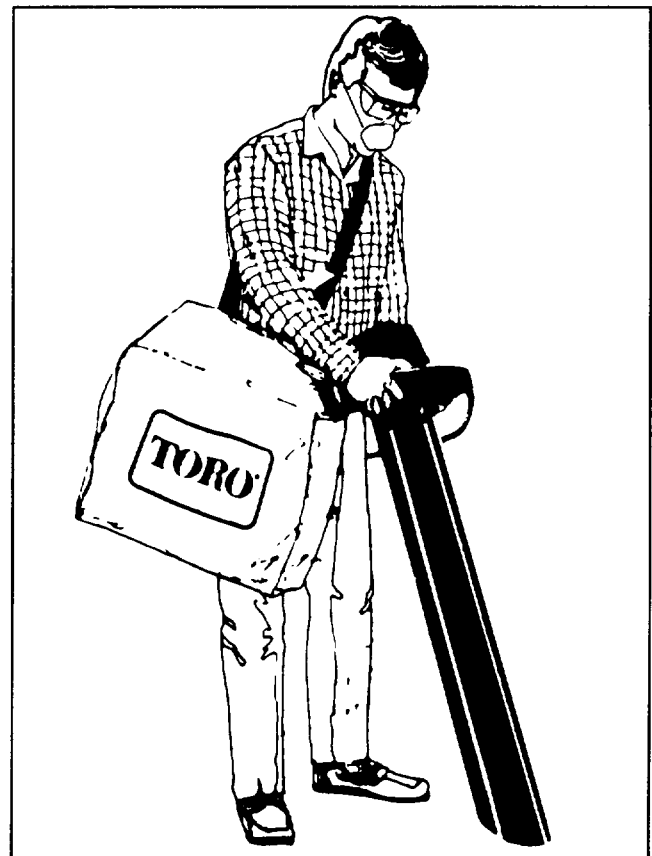

Figure 8
1. With vac tubes and bag attached, pick up unit with left hand holding handle and right hand on textured part of housing. Bag should be on right side. Place bag strap over shoulder, and adjust length to fit (Fig. 8).